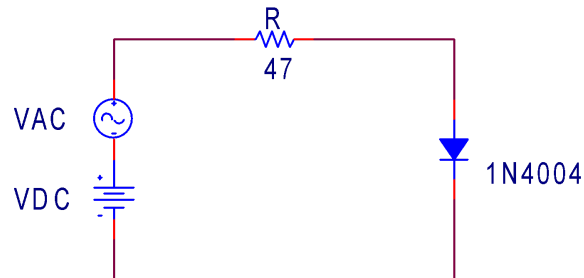

Figure 2: Diode circuit
2. In Spice, implement the diode circuit shown below (Figure 2). The circuit includes a DC source and an AC source. Set the DC voltage to 0.8 V. Set the AC sinusoidal voltage to 30 mV peak-to-peak with frequency 100 Hz.